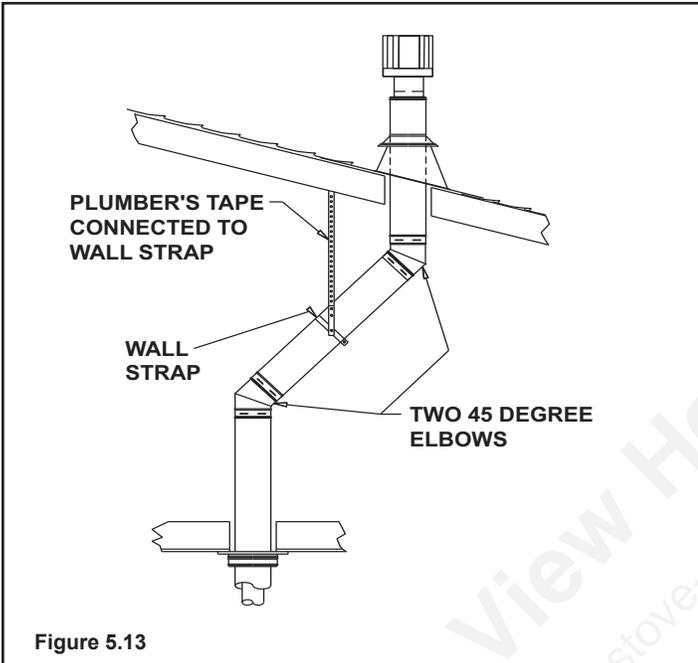

Figure 5.13
Set the gas appliance in its desired location. Drop a plumb bob down from the ceiling to the position of the appliance flue exit, and mark the location where the vent will penetrate the ceiling. Drill a small hole at this point. Next, drop a plumb bob from the roof to the hole previously drilled in the ceiling, and mark the spot where the vent will penetrate the roof. Determine if ceiling joists, roof rafters, or other framing will obstruct the venting system. You may wish to relocate the appliance, or to offset, as shown in **Figure 5.13** to avoid cutting load bearing members. When location is determined, drill small hole.
- (1) If an offset is necessary in the attic to avoid obstructions, it is important to support the vent pipe every 3 ft. (914mm) to avoid excessive stress on the elbows, and possible separation. Wall straps are available for this purpose, **Figure 5.13**.
- (2) Whenever possible, use 45° elbows, instead of 90° elbows. The 45° elbow offers less restriction to the flow of flue gases and intake air.